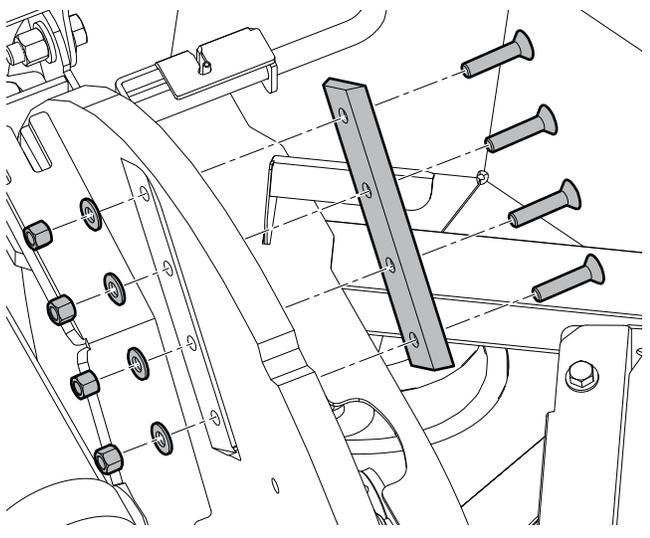

Figure 46—Install a rotor knife
11. Install the rotor knife fasteners. See *Figure 46* on page 62.